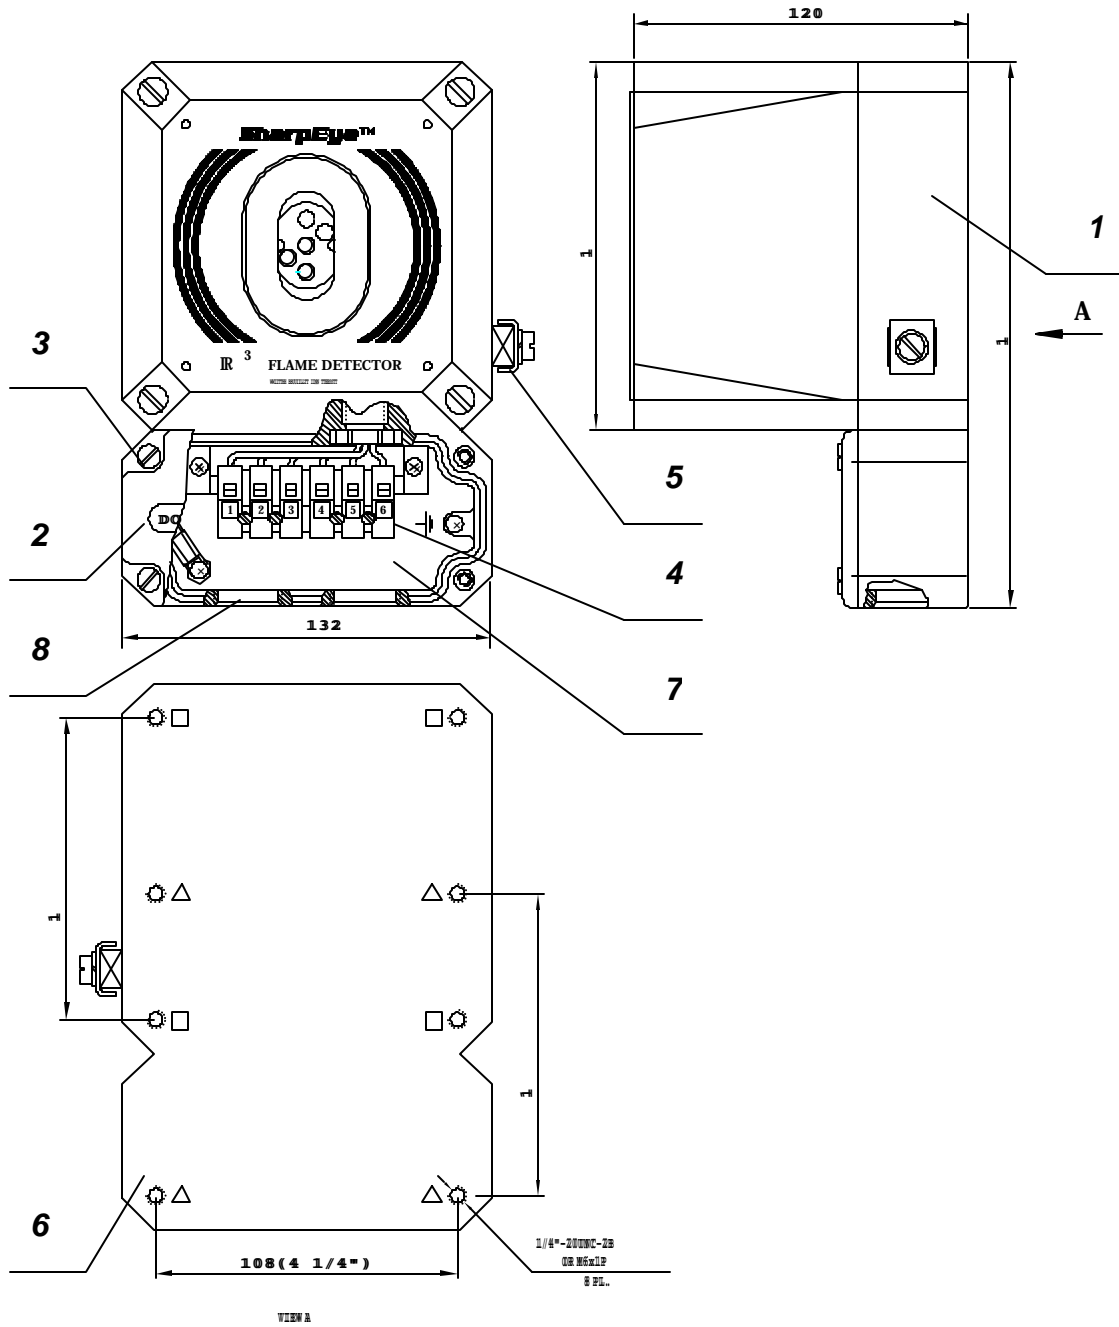

FIGURE 17: FLAME DETECTOR ASSEMBLY - WIRING DIAGRAM
3	Place the detector, with its conduit inlets pointing down, on the holding plate of the swivel mount (Fig. 7 item 7). Secure the detector by four (4) 1/4"-20UNC screws with 1/4" spring washers from the Swivel Mount Kit (using the holes (Fig. 8 item 5)). You can use the thread on the modified cover (Fig. 17 item 1) marked either or □. Use 3/16 Hex Key for 1/4" screws and No. 5 for M6 screws.
Refer to Fig. 17.